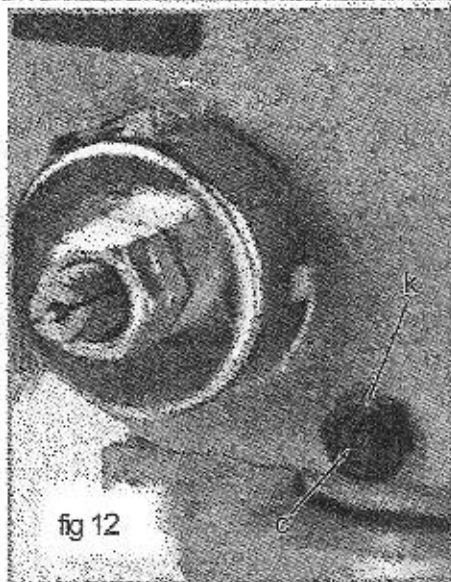

fig 12
- Loosen the lock nut on the lower left side of the drill press head (k, fig 12) behind the depth gauge.
- Turn the screw (c, fig 12) clockwise to eliminate play, but not so much as to restrict the upward and downward motion of the spindle. A little bit of play is normal.